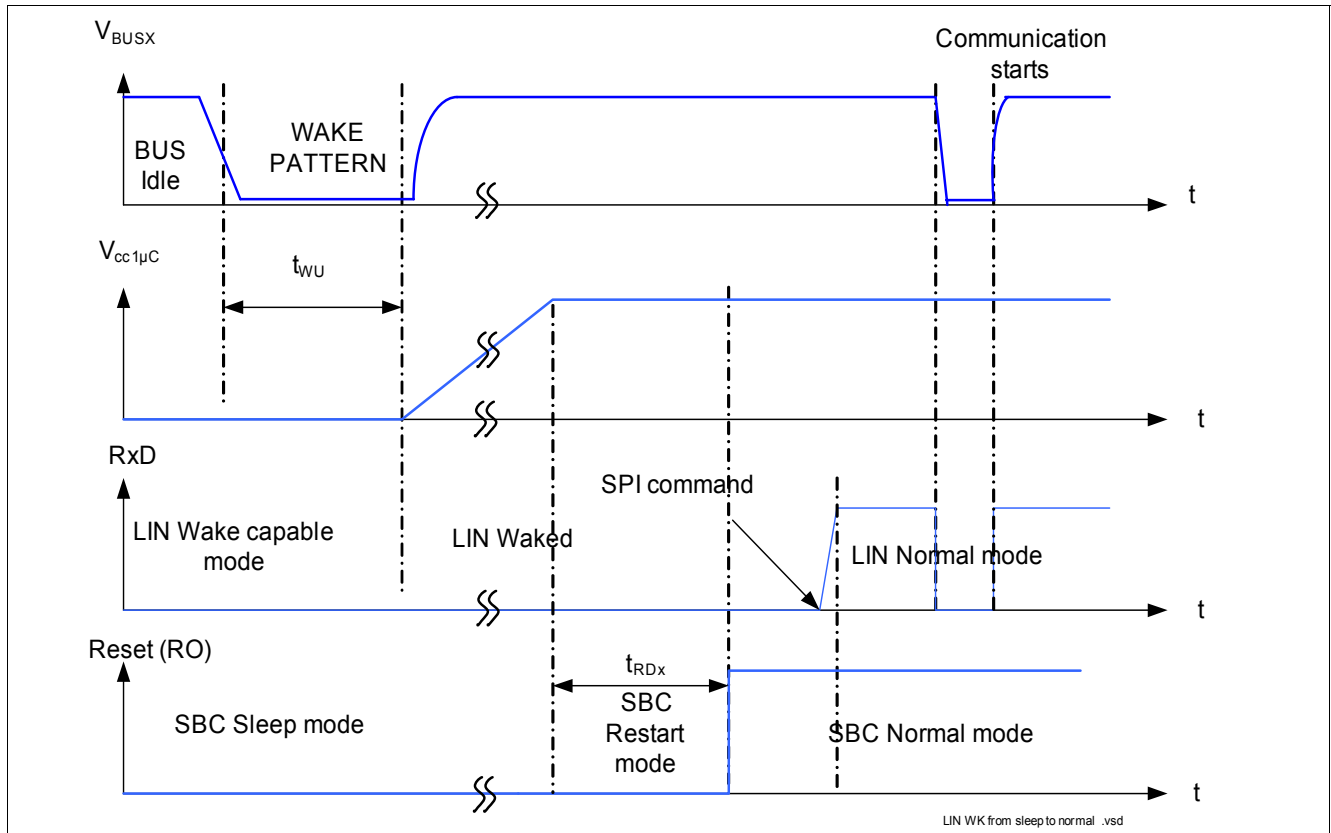

Figure 21 Timing during Transition from SBC Sleep to SBC Normal Mode
Wake-up is possible via a LIN message (filtering time $t > t_{WK,bus}$), it automatically transfers the SBC into the SBC Restart Mode and from there to Normal Mode the corresponding RxD pins in set to LOW, see Figure 21. The microcontroller is able to detect the low signal on RxD and to read the wake source out of the "Wake Register Interrupt" register (000) via SPI. No Interrupt is generated when coming out of Sleep Mode. The μ C can now switch the CAN transceiver into LIN Normal Mode via SPI to start communication.